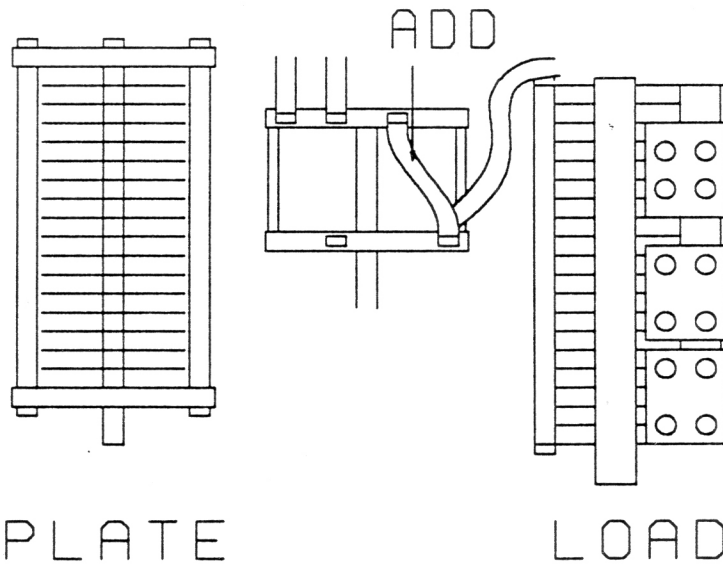

FIGURE 3
CONNECTING THE CERAMIC BANDSWITCH CONTACTS (FIGURE 3):
2. Install a jumper from the front deck of the bandswitch to the rear deck as shown in figure 3. We recommend the use of AWG #10-14 wire. **Do not pull or bend the tabs on the ceramic wafers as this will cause the wafers to crack.**